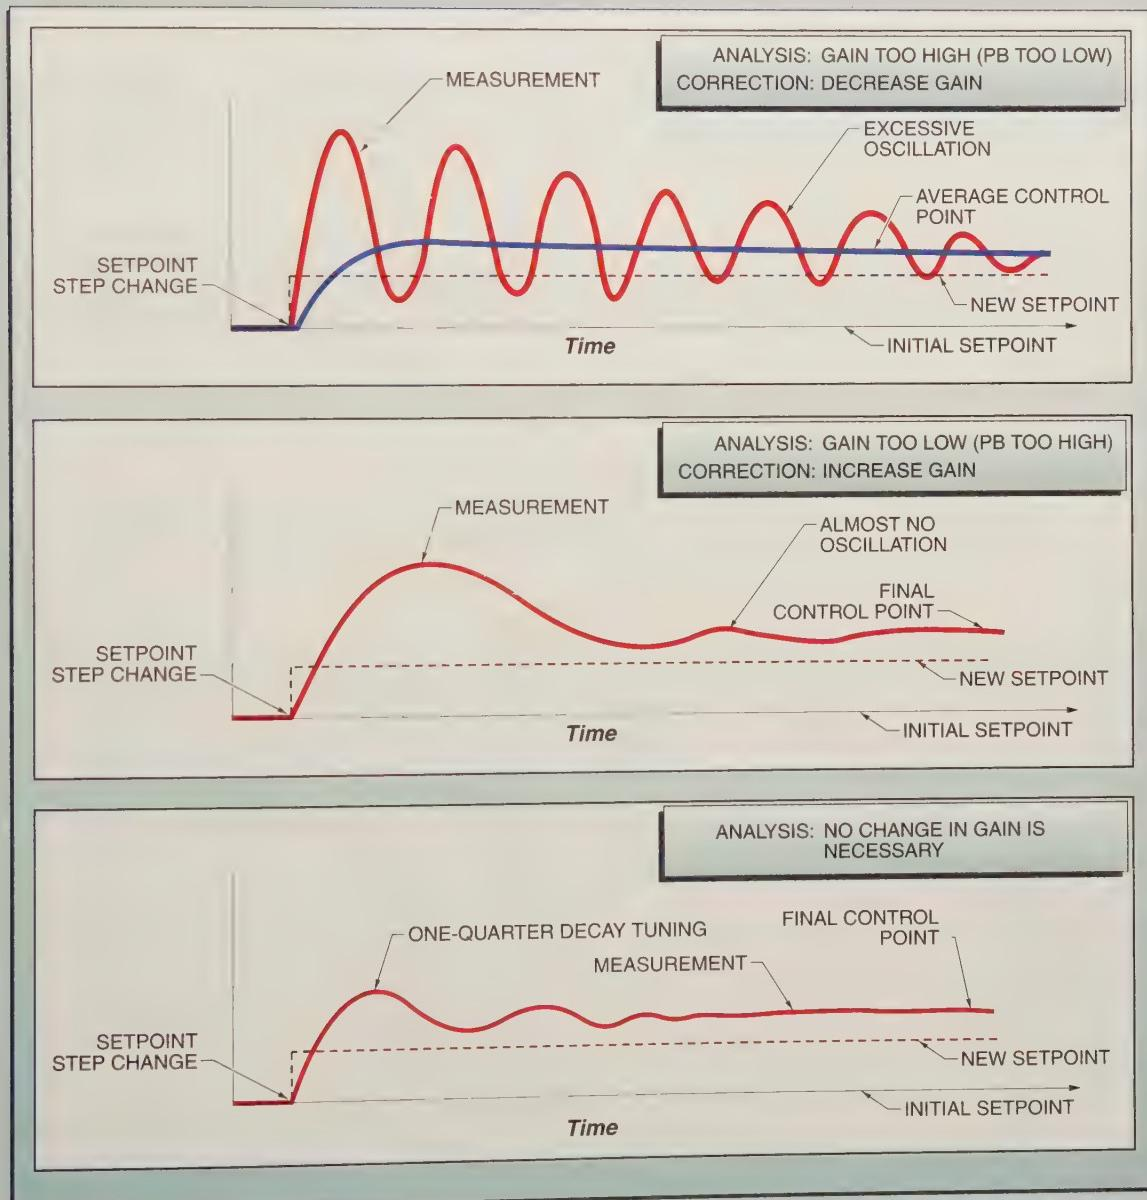

Figure 37-5. Closed loop controller responses for a proportional control action can be used to make tuning changes.
2. Start by adjusting the proportional gain. Make a small change in the controller setpoint and watch the control system response. If an automatic recording device is not available, write down the measurement and output values frequently until the measurement is no longer moving. See **Figure 37-5**. Compare the control system response to the curves shown and make the